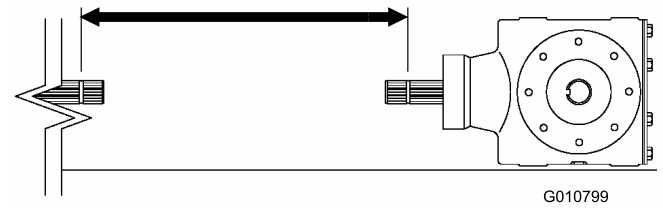
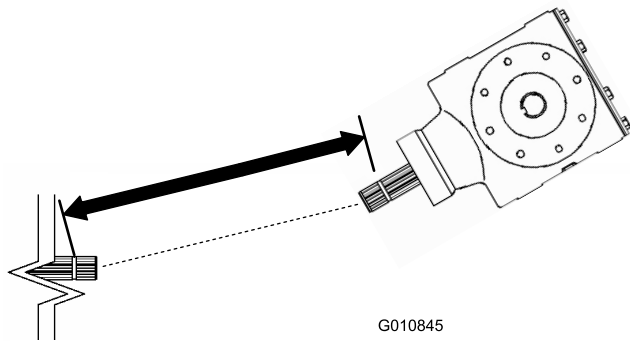
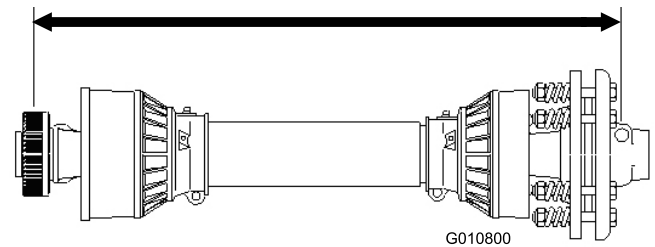

Figure 12
Figure 10
Figure 13
3. Measure the distance from the relief on the end of the tractor PTO shaft to the relief on the aerator gearbox PTO shaft (Figure 10). Record this distance. Example: 26.5 inches (67 cm).
5. Measure the distance from the relief on the end of the tractor PTO shaft to the relief on the aerator gearbox PTO shaft (Figure 12). Record this distance. Example: 27.5 inches (70 cm).
6. On the PTO shaft, measure the distance from the center of locking pin ball on one end to the center of the locking pin button on the other end (Figure 13). Record this distance. Example: 32 inches (81 cm).
7. Using the smaller of the two measurements in Figure 12 and Figure 10, subtract that distance from the distance in Figure 13. Example 32 (81 cm) inches minus 26.5 inches (67 cm) equals 5.5 inches (14 cm).